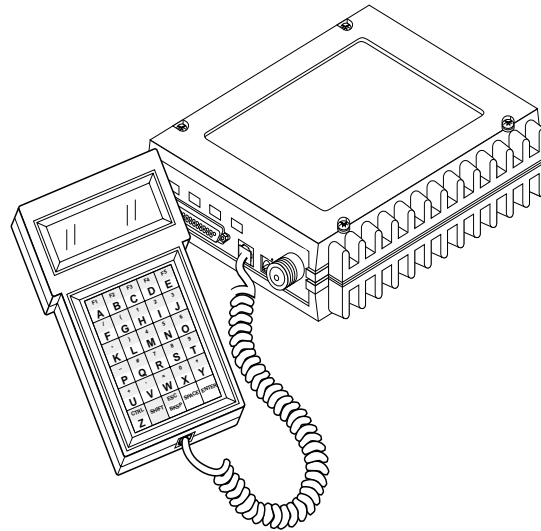

Figure 22. Hand-Held Terminal Connected to the Transceiver
1. Connect the HHT's coiled cord to the DIAG(NOSTICS) (RJ-11) jack on the radio as shown in Figure 22. This automatically places the radio into the control and programming mode.